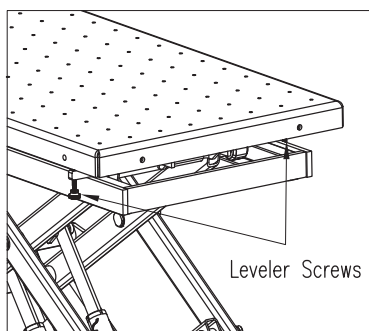

Figure 2
1. Screw the screw into the threaded hole (about 5 turns). When this function is not used, do not extend the screw out of the square tube or contact the ground of the platform; See Figure 2 in the section "Stabilization functions"
If lift is to be used as a stationary work surface for servicing components, two leveler screws (see Figure 2) have been added to help stabilize the platform.